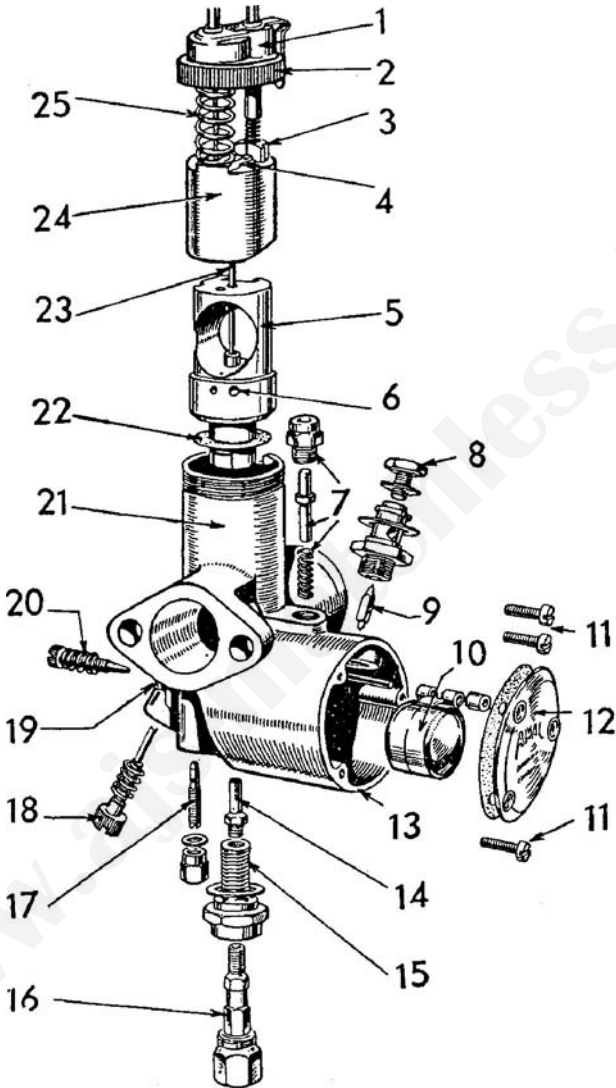

FIG. 10. AMAL "MONOBLOC" CARBURETTOR (1955 ONWARDS)
KEY TO FIG. 10
With the "Monobloc" carburettor (see Fig. 10) to remove the pilot jet (1 7), remove the pilot jet cover-nut and then unscrew the jet itself which should be thoroughly cleaned in petrol and then blown through. See that the air passage (6) to the pilot jet, and also the pilot outlet, are quite clear.
Dismantling "Monobloc" Carburettor. Close both petrol taps and disconnect the twin petrol pipes by undoing the banjo bolt (8) over the float chamber (see Fig. 10). Referring to Fig. 10, unscrew the mixing-chamber knurled cap-ring (2) on top of the carburettor and remove the two nuts securing the carburettor flange to the face of the inlet port. Then remove the body of the carburettor (21), complete with the integral float chamber (13). While removing the carburettor, pull the air valve (3) and the throttle valve (24) from the mixing chamber and tie them up temporarily out of the way. As mentioned in the instructions for the standard type carburettor, it is rarely necessary to disconnect the slides from the cables. Check that the flange washer is sound.
Further dismantling is straightforward. Referring to Fig. 10, to remove the jet needle (23), withdraw the jet-needle clip (4) on top of the throttle valve, and remove the needle. To obtain access to the float (10), remove the three screws (11) securing the float-chamber cover (12). Lift out the hinged float (10) and withdraw the moulded-nylon needle (9). Lay both aside for cleaning. The float-chamber vent, by the way, is embodied in the tickler assembly (7), and the top-feed union houses a filter element of fine gauze which is rapidly accessible for cleaning.
Assembling "Monobloc" Carburettor. Do this in the reverse order of dismantling. Referring to Fig. 10, screw home the pilot jet (17) and the pilot jet cover-nut, not omitting to replace its washer. Push or tap home the jet block (5) and fibre seal (22) through the large end of the mixing chamber (21). Check that the fibre-seal fitted to the stub of the jet block is in good condition. Then fit the jet-block locating-screw (19). Screw the main-jet holder (15) into the jet block, after checking that the washer for the holder is sound. Next screw the main jet (16) into the jet holder.